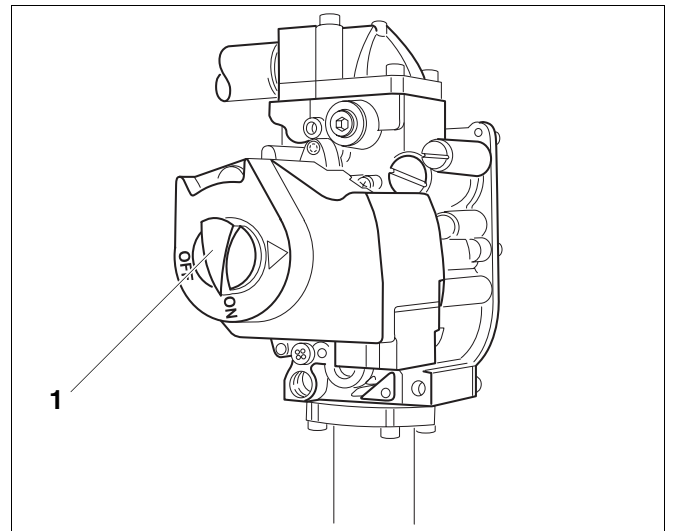

Fig. 2 Gas valve
- Never use excessive force on the ON/OFF knob (→ Fig. 2).